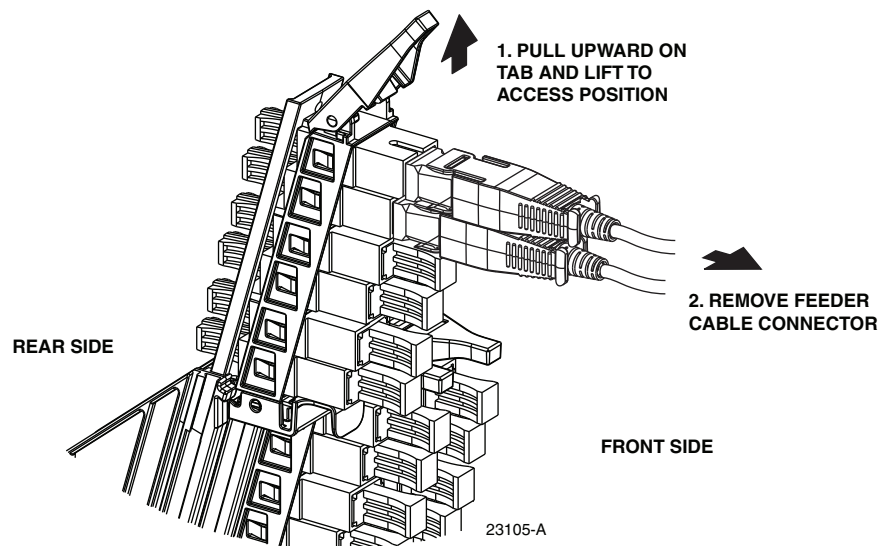

Figure 75. Adapter Pack Raised to Access Position
3. Pull upward on the small tab on top of the adapter pack and lift the adapter pack to the position shown in Figure 75.